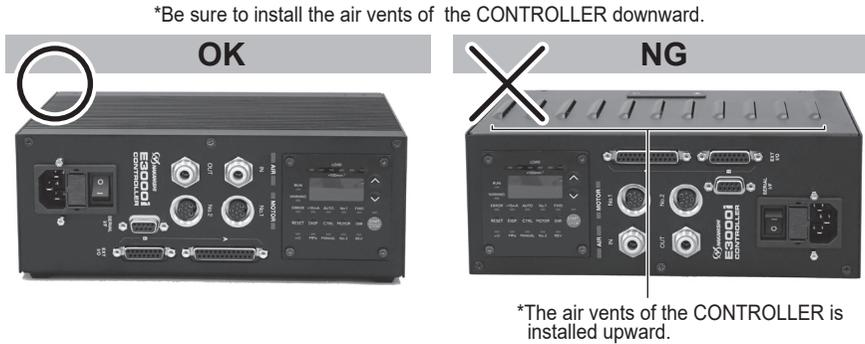

Fig. 26
- When installing the CONTROLLER, be sure to place the air vents downward, away from debris (Fig. 26). Protect the CONTROLLER (air vents and other connector) from cutting oil, mist oil, powder dust, other contaminants that can buildup heat and damage the internal components.
- When rotating the direction of setting Control Panel ②, ensure that the Main Power Switch ⑨ is turned OFF and the Power Cord has been removed from the CONTROLLER.